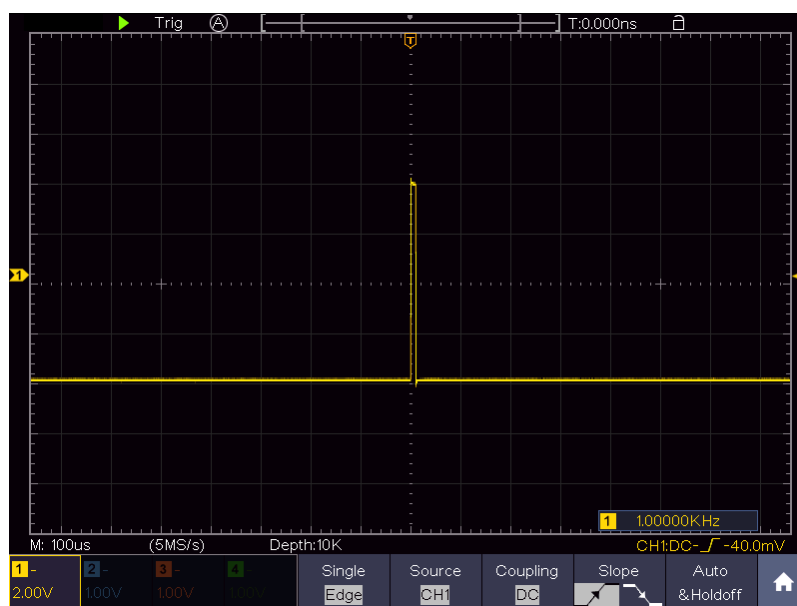

Figure 7-3 Capturing a Single Signal
- (3) Click  to call up the menu panel. Click the **Acquire** softkey on panel to
- (4) Select **Acqu Mode** in the bottom menu. Select **Peak Detect** in the right menu.
- (5) Click  to call up the menu panel. Click the **Trig Menu** softkey on panel to display the Trigger menu.
- (6) Select the first menu item in the bottom menu. Select **Single** in the right menu.
- (7) In the left menu, select **Edge** as the mode.
- (8) Select **Source** in the bottom menu. Select **CH1** in the right menu.
- (9) Select **Coupling** in the bottom menu. Select **DC** in the right menu.
- (10) In the bottom menu, select **Slope** as  (rising).
- (11) Turn the upper knob and adjust the trigger level to the roughly 50% of the signal to be measured.
- (12) Check the Trigger State Indicator on the top of the screen, if it is not Ready, push down the **Run/Stop** button and start acquiring, wait for trigger to happen. If a signal reaches to the set trigger level, one sampling will be made and then displayed in the screen. By using this approach, a random pulse can be captured easily. For instance, if we want to find a burst burr of high amplitude, set the trigger level to a slightly higher value of the average signal level, push the **Run/Stop** button and wait a trigger. Once there is a burr occurring, the instrument will trigger automatically and record the waveform during the period around the trigger time. When the **HOR** button is lit, by turning the upper knob on the front panel, you can change the horizontal triggering position to obtain the negative delay, making an easy observation of the waveform before the burr occurs (see *Figure 7-3*).